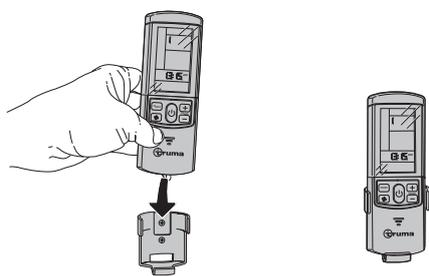

Fig. 18
- ▶ Place the remote control into the holder or remove it from above (Fig. 18).